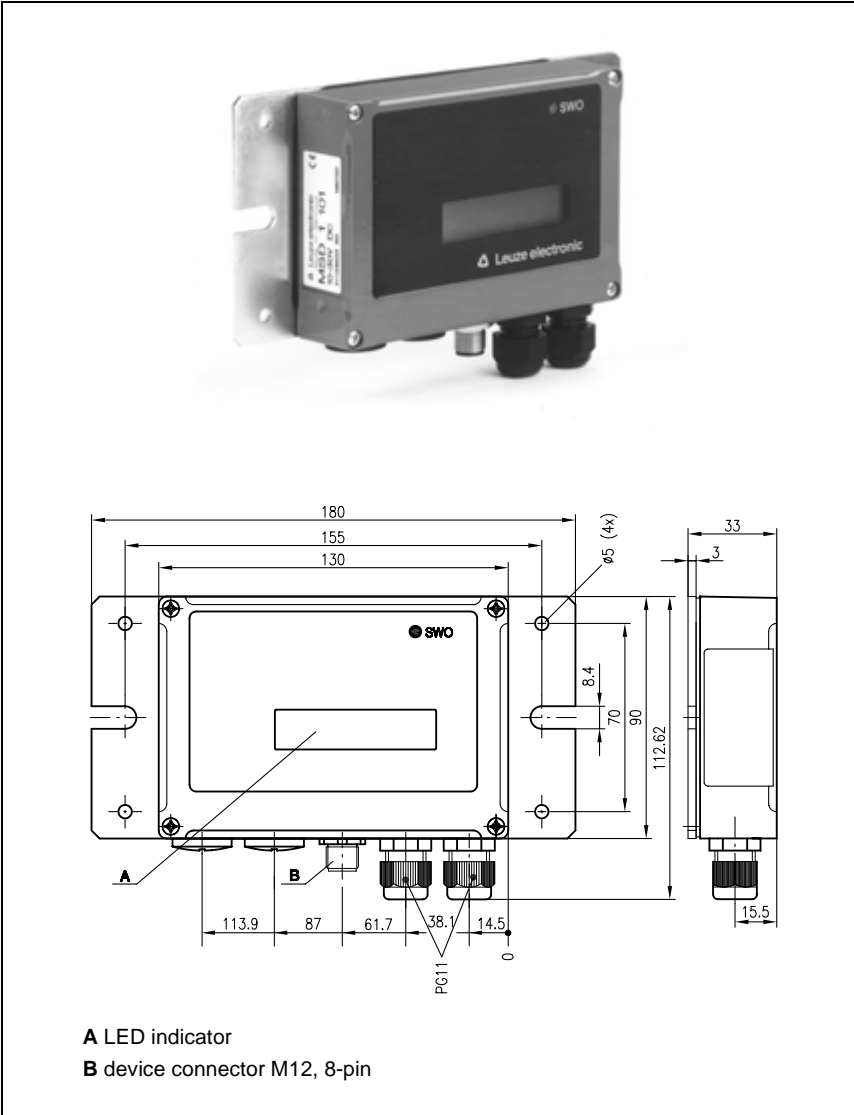

Figure 5.1: Modular Service Display MSD 1 101
- using the dovetail groove and the corresponding mounting accessories (see figure 5.1)
You can mount the modular service display individually through the holes located on the mounting plate (see figure 5.1).